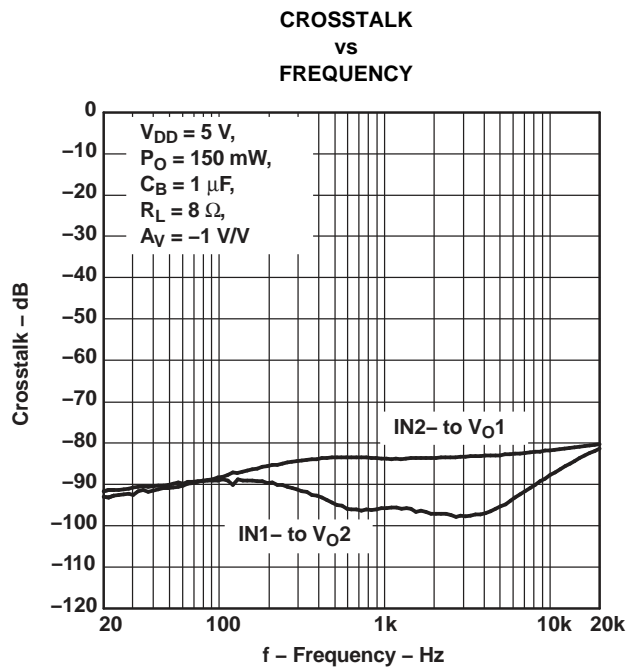

Figure 24.
- Changed Figure 24, From: frequency limit at 1M To: frequency limit at 20K ..... **10**